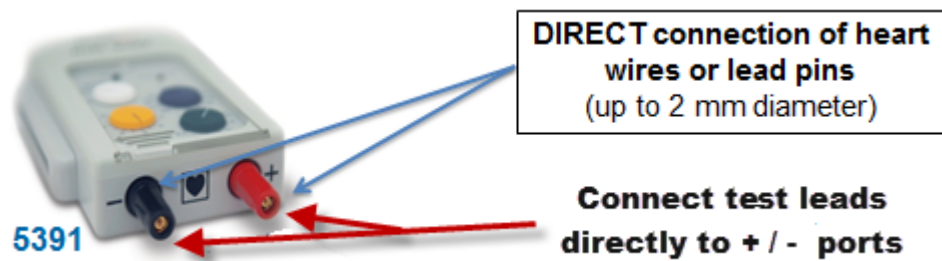

Fig. 15
- 2) Connect the test leads to the 5391 using the device connector post. Insert each test into the proper receptacle (marked + and -). Fig. 15